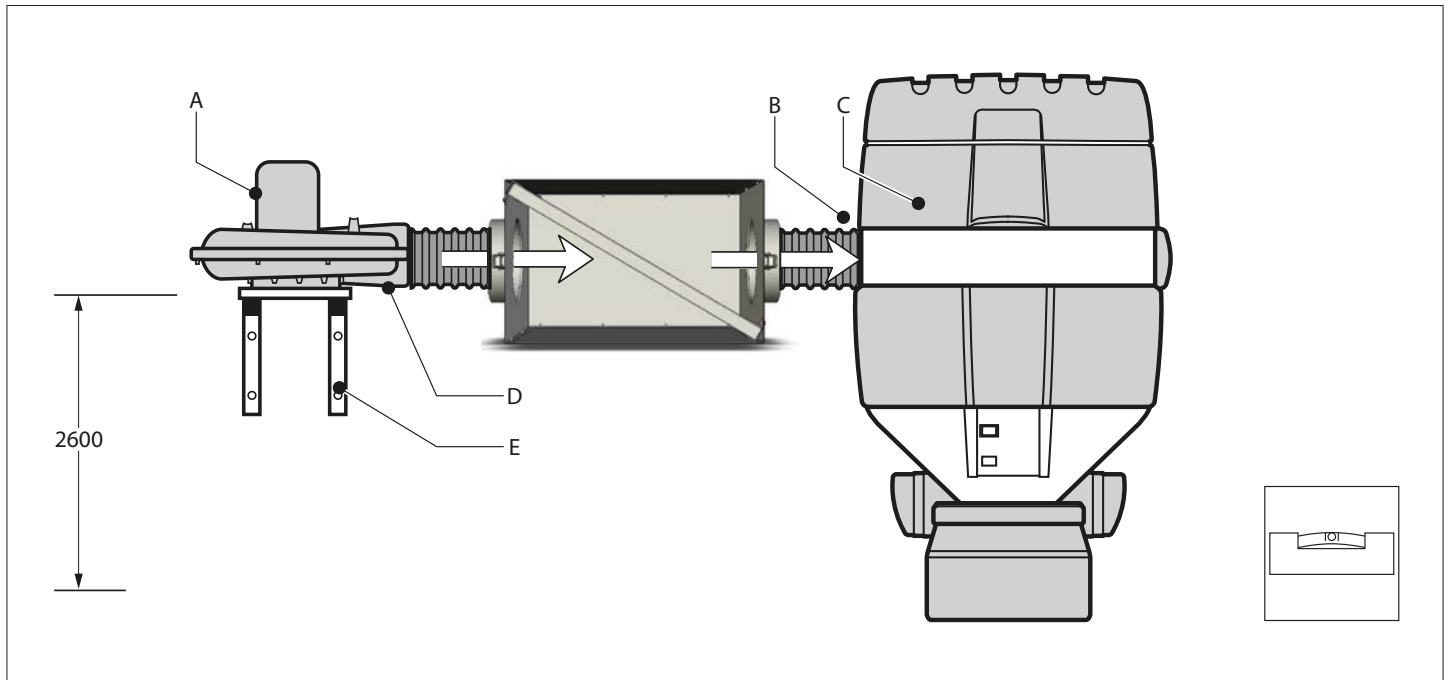
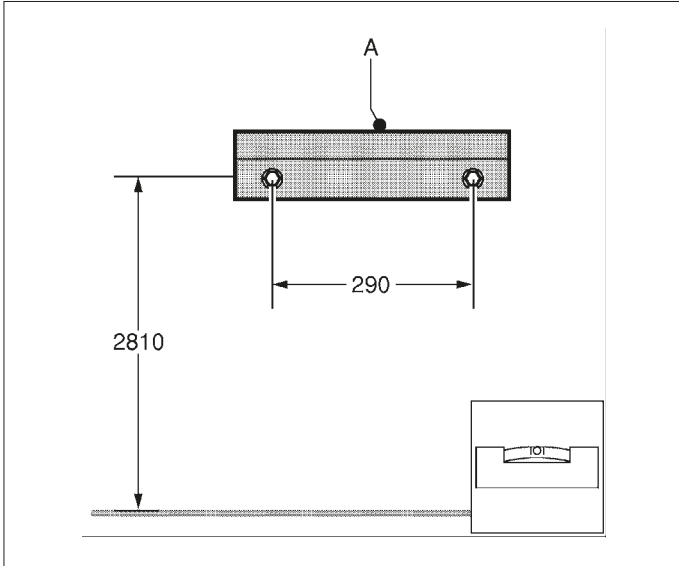

Fig. 4.1
Fig. 4.2
Mount the Statiflex 400-MS (Fig. 4.1 C) in such a way that the inlet opening (Fig. 4.1 B) is horizontally in line with the outlet opening (Fig. 4.1 D) of the extraction fan. In the standard set-up the Statiflex 400-MS is positioned to the right of the extraction fan (Fig. 4.1 A). See Fig. 4.2 for the recommended height of the wall mounting bracket. For mounting the (LMB or TMB) wall mounting brackets (Fig. 4.1 E) and the extraction fan, see the corresponding manuals.
Before mounting the wall mounting bracket (Fig. 4.2 A) check that the wall is strong enough. The net weight of the Statiflex 400-MS is approx. 85 kg (187 lbs). When drilling holes note any gas, water or electricity lines. Do not position the Statiflex 400-MS where it is exposed to vibrations or heat radiation from heat source. Observe the earlier described ambient conditions.
- Mount the wall mounting bracket (Fig. 4.2 A). See Fig. 4.2 for the recommended height and the drilling dimensions. Note that the mounting height given only applies if the extraction arm is mounted at 2,600 mm (102.4 in.) and the Statiflex 400-MS is horizontally in line with the outlet opening of the extraction fan. Make sure there is sufficient space at the top (min. 700 mm [27.6 in.]); when replacing the filter the cover must be removed.